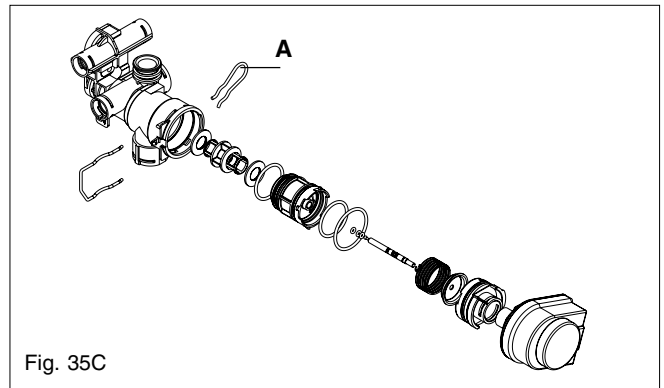

Fig. 35C
6.20.5 DIVERTOR VALVE ASSEMBLY (Fig. 35C)